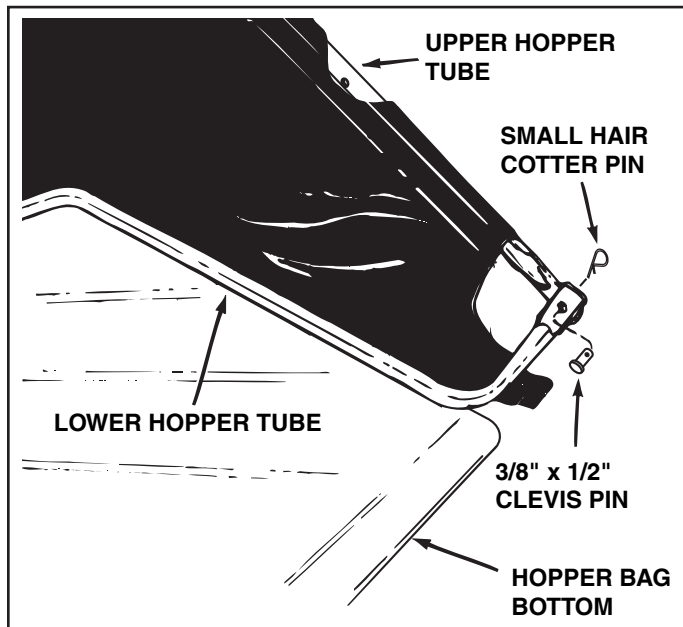

FIGURE 12
- Place the assembled lower hopper tubes into the bottom of the hopper bag and then slide the tubes to the back of the bag. See figure 12.
- Attach the ends of the lower hopper tubes to the **inside** of the upper hopper tubes using two 3/8" x 1/2" clevis pins inserted from the inside, and two small hair cotter pins. See figure 12.